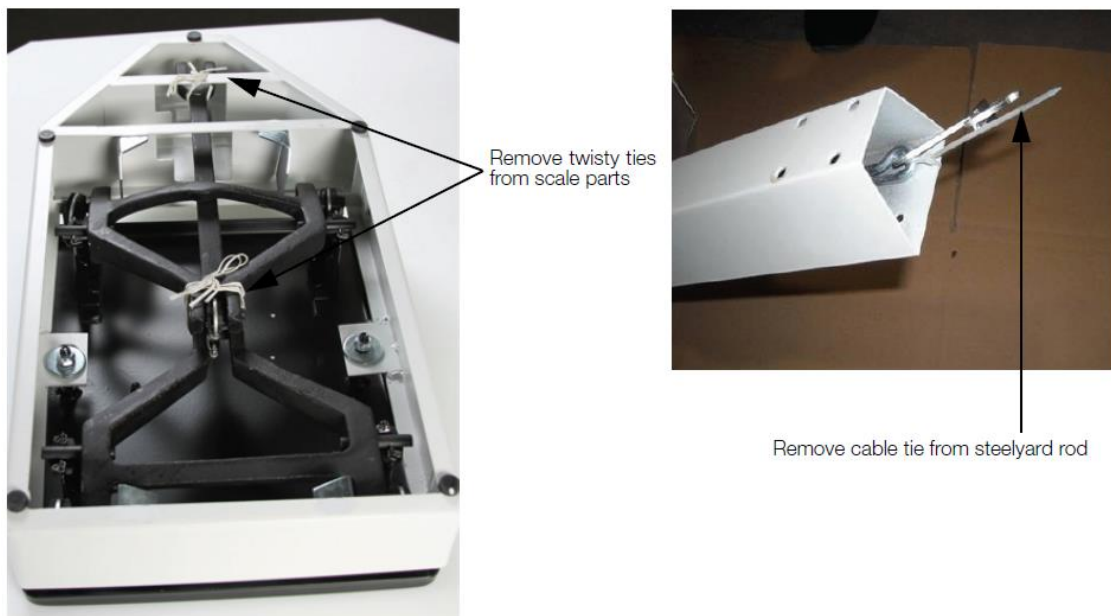

Figure 2-1. Remove Cable Ties and Cable Ties
1. Set the scale base on a table or other convenient place with the bottom facing upwards (shown in left side photo in Figure 2-1)
2. Remove twisty tie off of the scale base as shown on the left hand side of Figure 2-1. Remove the cable tie that holds the steelyard rod from shifting during transit (shown in right side of Figure 2-1).)